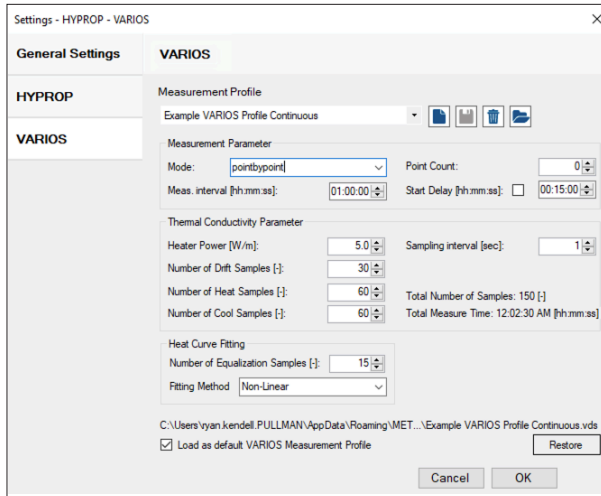

Figure 27 Example VARIOS point-by-point measurement profile
- VARIOS point-by-point measurement mode (Figure 27)